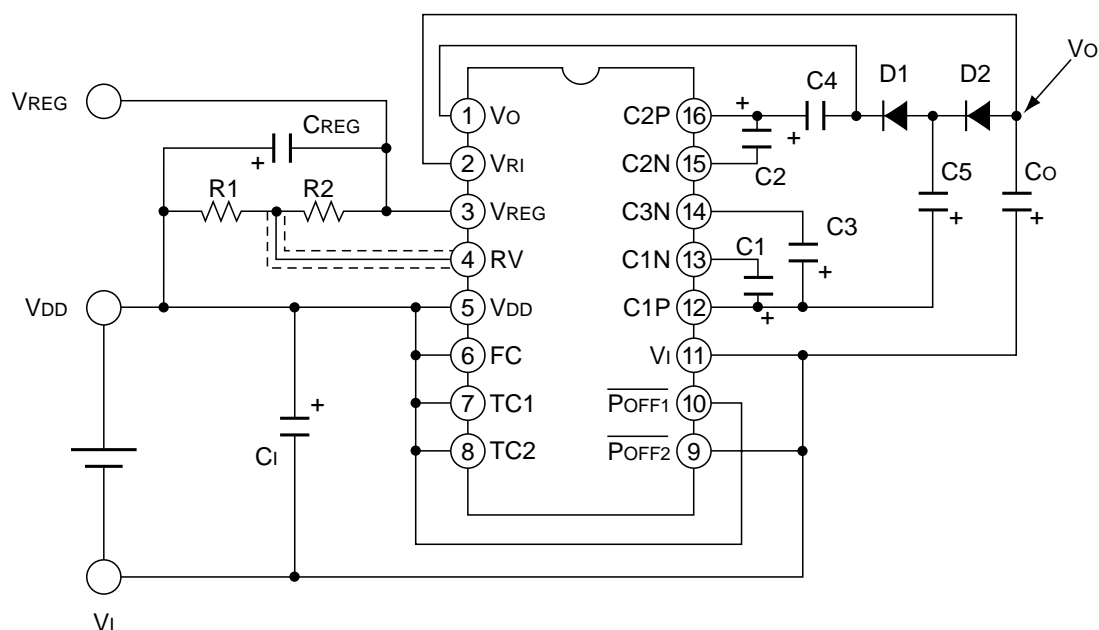
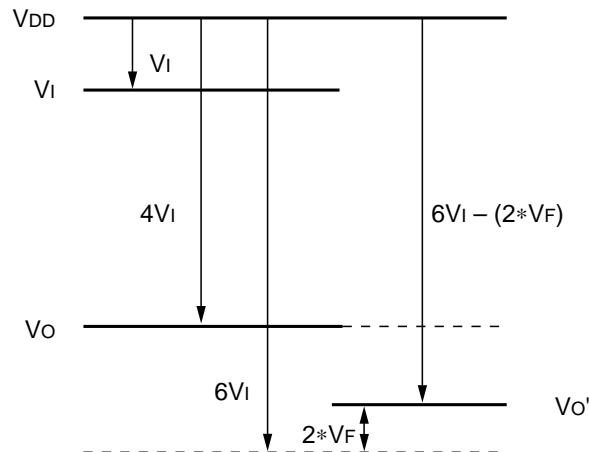

Figure 2.12 Wiring example for 6-time boosting using diodes
Figure 2.13 Potential relationship during 6-time boosting using diodes
Figure 2.12 gives a wiring example of 6-time booster and regulator that use two diodes. The wiring between V_O and V_I must be minimal. Figure 2.13 provides the potential relationship.
◇ Setup conditions of Figure 2.12
- When diodes are used for voltage boosting, the characteristics of diodes directly affect on the voltage boosting characteristics. The forward voltage drop (V_F) of diodes can reduce the booster output voltage. As the example of Figure 2.12 uses two diodes, the drop of " V_F " voltage multiplied by two occurs as shown in Figure 2.13. The booster output voltage is expressed by equation (5).
To satisfy the input and output current ratings, limit the total current does not exceed the rated input current. The total current means the total boost time multiplied by the output load current. The example of Figure 2.12 has the maximum load current of 13.3 mA (= 80 mA divided by 6).
To satisfy the input and output voltage ratings, take care not to violate the electric potential relationship of higher time boosting using diodes. The example of Figure 2.12 must have the " V_I " that can satisfy the input voltage conditions during 6-time boosting (see Table 2.3).